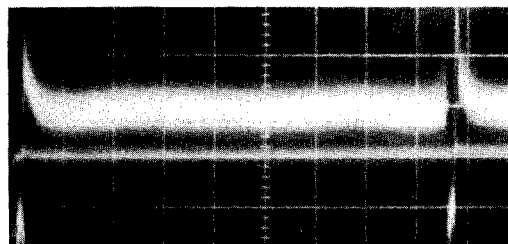

Fig. 25.
2. Adjust the dark shading control (V. Para.), VR303 and the dark shading control (V. Saw.), VR304 so that the signal waveform is flatest during the vertical period as shown in Fig. 25.